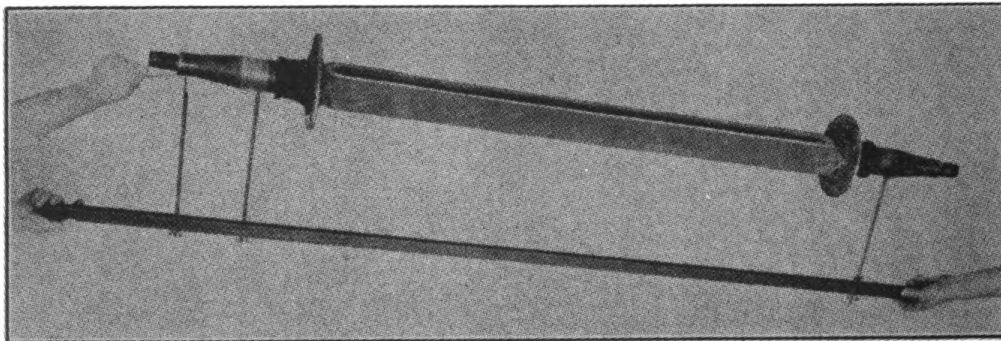

FIGURE 7 CHECKING AXLE FOR BEND
3. **CHECKING FOR BEND (Fig. 7)**—*a.* Place the axle gauge in position on the front side of the axle.